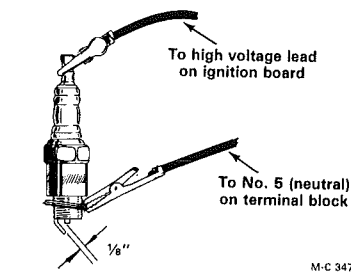

Figure 58
- B. Using a new properly gapped electrode ($\frac{1}{8}$ inch) or an automotive spark plug gapped to ($\frac{1}{8}$ inch), connect jumper wires from the test electrode or spark plug to the high voltage lead on the ignition board and to terminal No. 5 (neutral) on the terminal block in the control cabinet, see Figure 58.